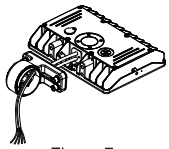

Figure 7
5. DIRECT MOUNTING (DM)
Step 1: Separate the bracket with tool(Figure 7);